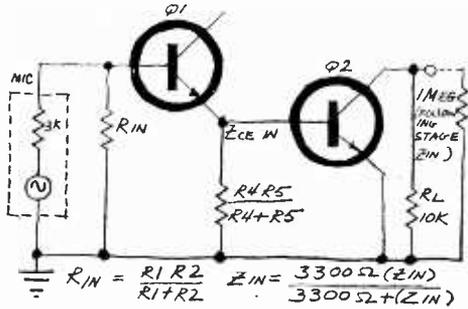

Fig. 7. Convert to equivalent ac design.
• 6. To calculate the ac values, redraw the circuit showing all bypassed resistors as shorts to ac and the input impedance of the following stage as resistors (Fig. 7). Note that  $R_1$  and  $R_2$  in parallel form  $R_{in}$  which is in parallel with  $Z_{in}$  of the emitter follower to form the amplifier input impedance. Since the input impedance of the emitter follower is dependent on the input impedance of the common emitter, we must determine the latter from Fig. 4A. Since  $I_b = 0.36$  mA and beta is 50, the input impedance is 3600 ohms. The latter is in parallel with  $R_4$  and  $R_5$ , the bias resistors. The parallel value of  $R_4$  and  $R_5$  is approximately 8800 ohms, which, in parallel with 3600, comes to about 2560 ohms.